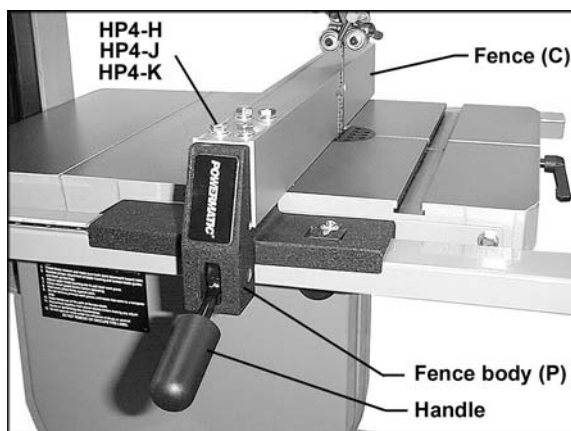

Figure 28
- Attach the *fence* (C, Figure 28) to the *fence body* (P) with four *5/16"x3/4" hex cap screws* (HP4-H), four *5/16" lock washers* (HP4-J) and four *5/16" flat washers* (HP4-K). Tighten the screws with a 12mm wrench.
- Hook the fence assembly over the rear rail, and onto the guide rail, as shown in Figure 28.